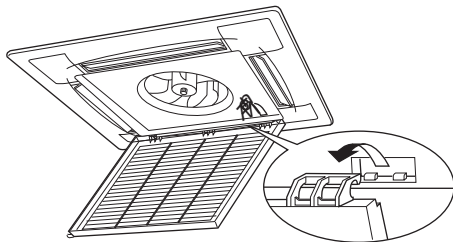

Fig.6-2
**2 Take out the air-in grill (together with the air filter shown in Fig.6-2).**